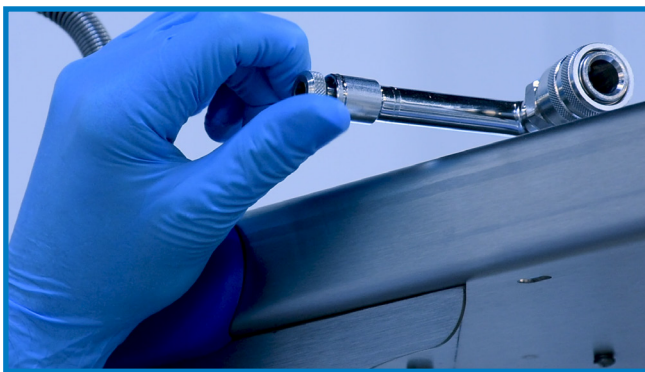

Figure 1
4. Open the air bleed valve at the top (Figure 1).